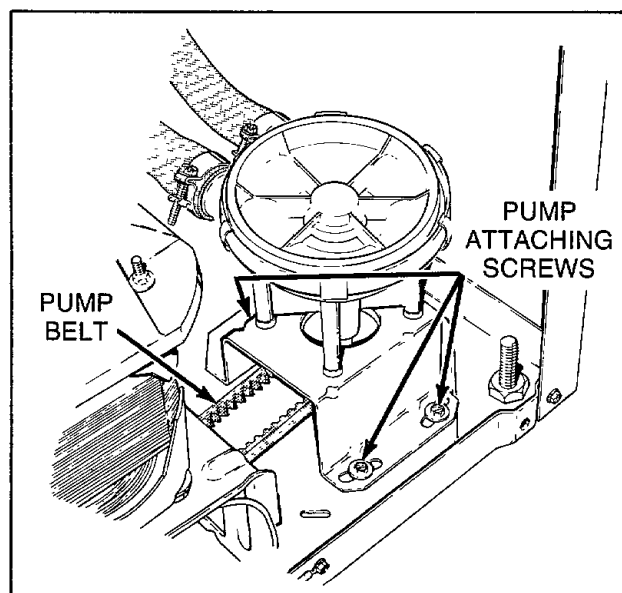

Figure 37
- Loosen the two front mounting screws, *Figure 37*, then loosen the rear screw.